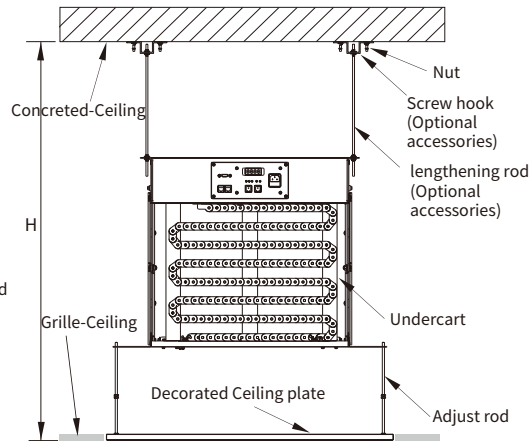

Figure 4 High Ceiling
B. If  $H > H1$  (Supposed it's Maximum H2), need lengthening bar (Optional accessories) to install Check Figure 4.